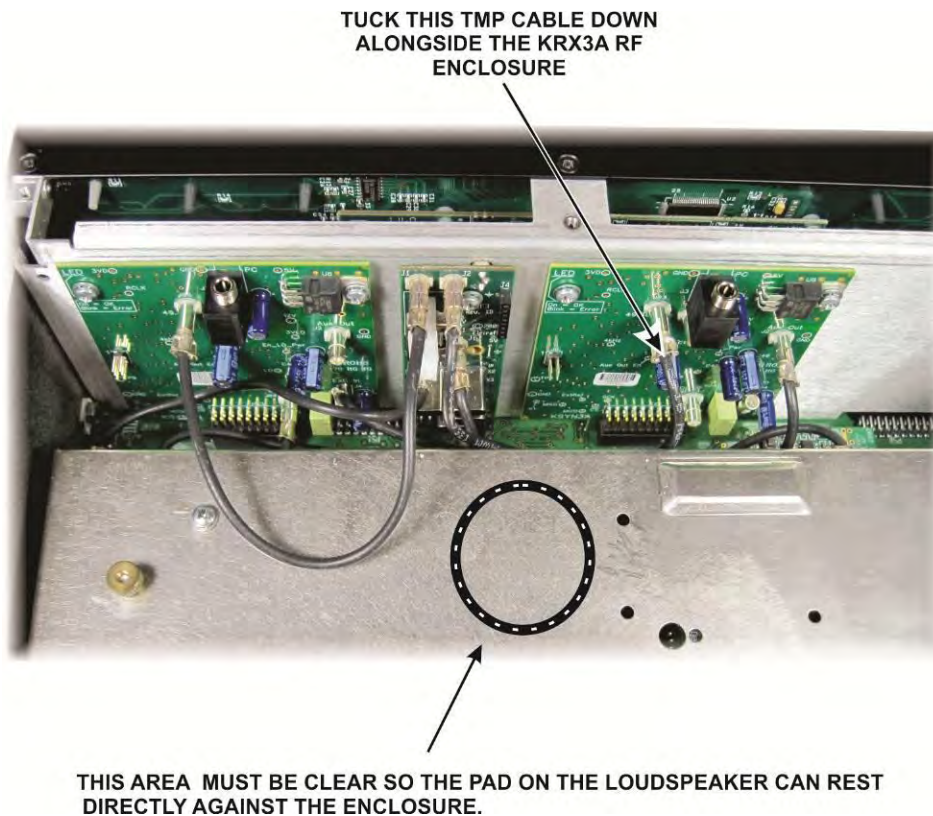

Figure 51. Positioning TMP Cable to Avoid Interference with the Speaker Pad.
- ❑ Be sure the TMP cable between the KXREF3 and Main KSYN3A board does not lie on the area where the speaker pad will press against the KRX3 top cover (see Figure 51). Tuck the cable down alongside the KRX3A enclosure as shown.